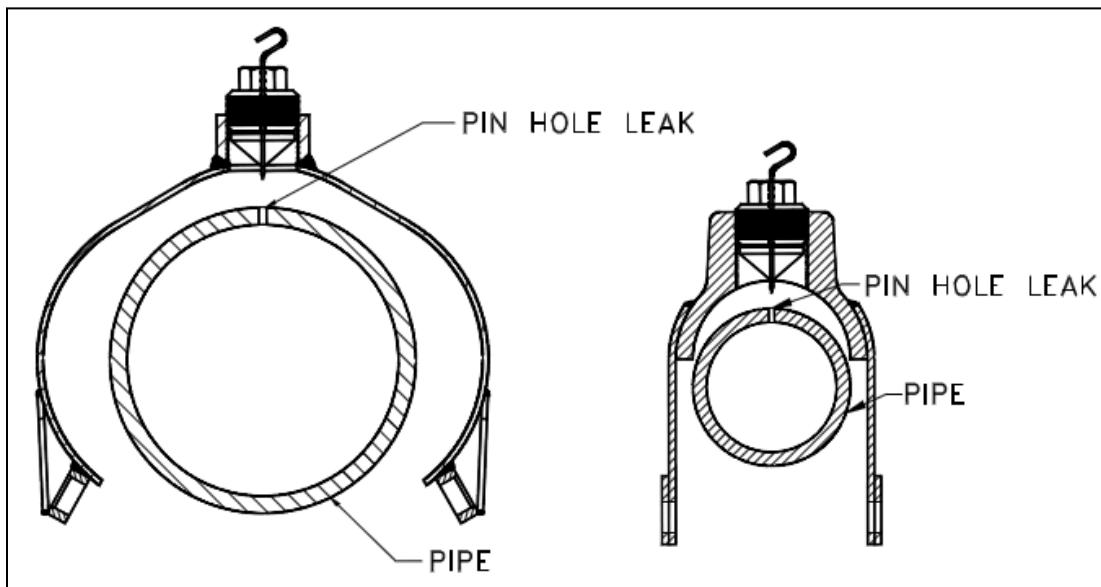

Figure 2
2. Remove the drawbolt from the slotted holes on the bottom of the PLIDCO Smith+Clamp and spread the PLIDCO Smith+Clamp open so that it can be assembled around the pipe as shown in Figure 2.